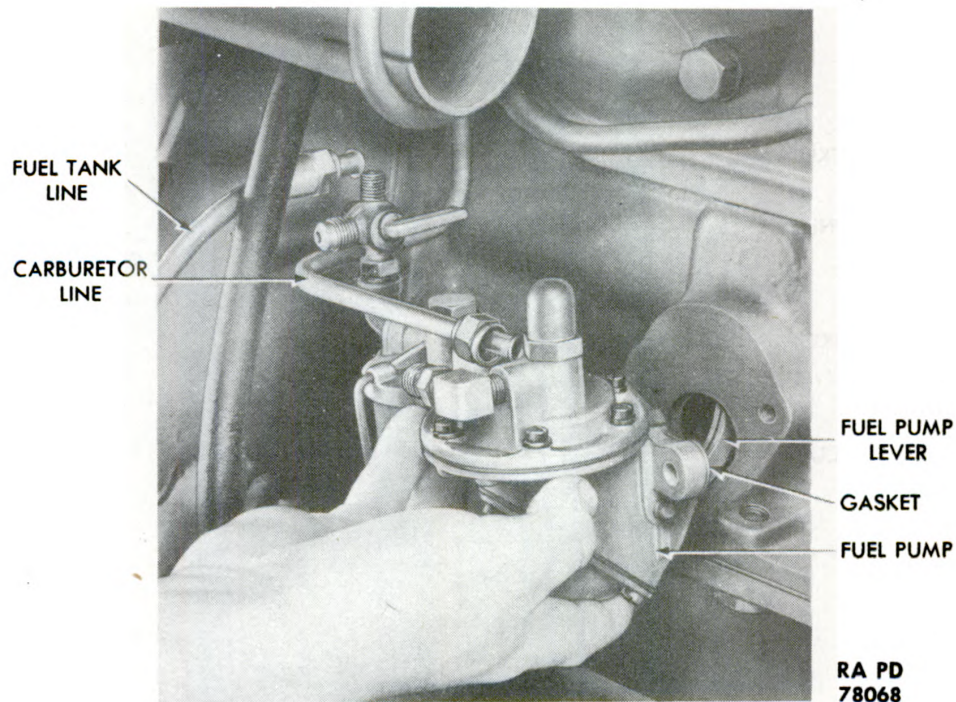

Figure 36 – Fuel Pump Installation
- (2) Take out the two cap screws and lock washers that hold the pump to the engine, and remove pump assembly (fig. 36).
- (1) Install pump at slight upward angle (fig. 36) to get pump lever into its proper position on the camshaft. If some resistance is not met against the lever pressure, the lever is not riding against the cam, and the angle should be altered slightly and tried again. When the pump is correctly positioned, secure to engine with cap screws and lock washers. Use new gasket when installing pump.